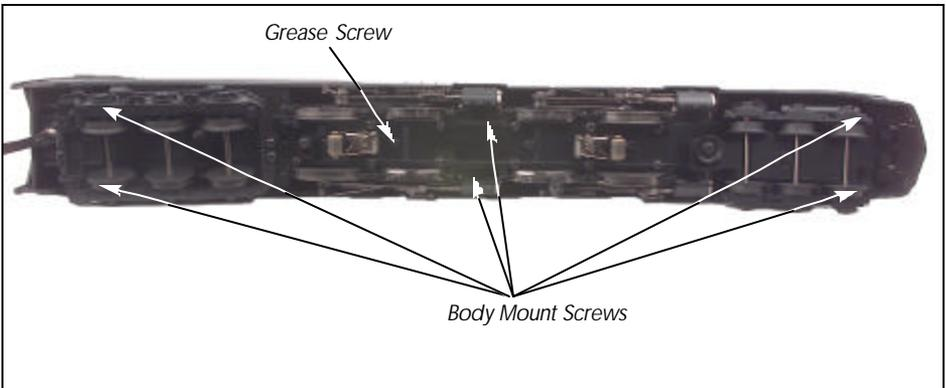

Figure 3 - Greasing points on the engine & location of body mount screws
1. Unscrew the Grease screw as shown in Figure 3 and use an applicator to apply grease into these screw holes.
Remove the locomotive boiler from its chassis as shown in figure 3 on page 9. Once the boiler has been removed from the chassis. Carefully pull the bulb through the grommet in the back of the headlight shell. Separate the connector and connect the new bulb.